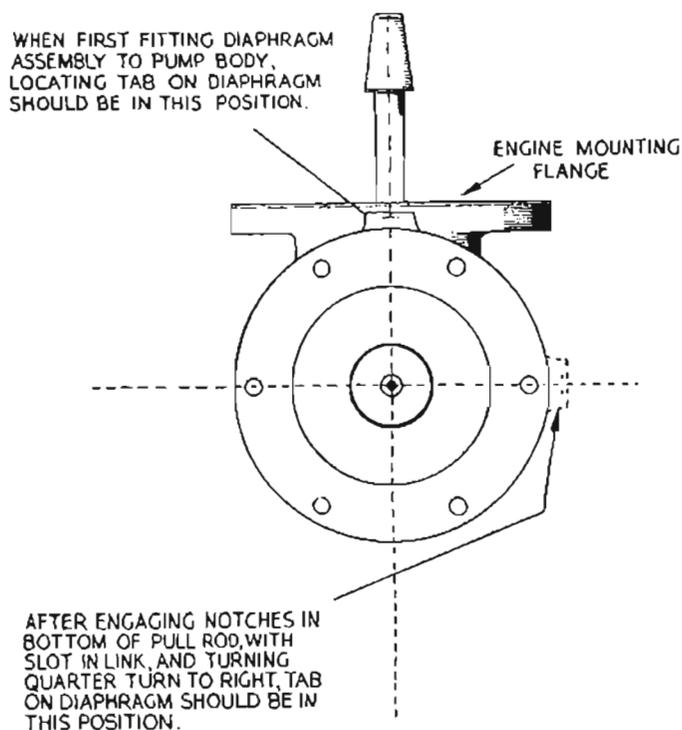

Fig. 6 Fitting the Diaphragm to the Pump Body.
- (a) Place the figure of eight gasket (3) in position on the valve ports in the upper body (1). Position the inlet valve assembly (5) in the off centre and shallower port, with the spring of the valve pointing towards diaphragm. The outlet valve (5) is positioned in the centre port with the spring of the valve inside the port itself. The valve retainer (7) is secured, holding both valves in place, with two screws (8).
- (b) Fit the diaphragm rod oil seal (15) and retainer (13) in the lower body (16) and stake over the wall of the seal recess. Position the hand primer shaft (20) with the offset uppermost and with its tongue pointing toward the pump mounting flange. Fit the cork washers (18) to the protruding ends of the shaft, on each side of the body (16).
- (c) Fit the hand primer lever (19) and then peen over the ends of the shaft (20) to retain the lever (19).
- (d) With the loops of the lever spring (17) upwards, feed the legs of the spring between the lever and the pump body so that it settles in its position on the upper side of the lever. The two legs are positioned above the lower body web adjacent to the outside of the pump mounting flange.
- (e) Feed the rocker arm pin (26) partially into the pump body (16). Position one packing washer (25) on the pin following with one flange of the link lever (22).
- (f) With the mounting flange uppermost position the rocker arm spring (21) on the cone-like protrusion in the pump body. The rocker arm (23) is fitted into the link lever and a protrusion allowed to engage the coil spring.
- (g) The pin (26) is pressed through the link lever (22), the rocker arm (23) and a washer (25) situated between the second flange of the link lever (22) and the pump body (16). A retaining ring (24) is fitted when the pin (26) protrudes through the pump body (16).
- (h) Position the diaphragm spring (11) on its base and fit the diaphragm (10) (with the tab toward the engine) by inserting the rod through the oil seal into the slot of the link lever (22) and turning it a quarter turn to the right (Fig. 6).